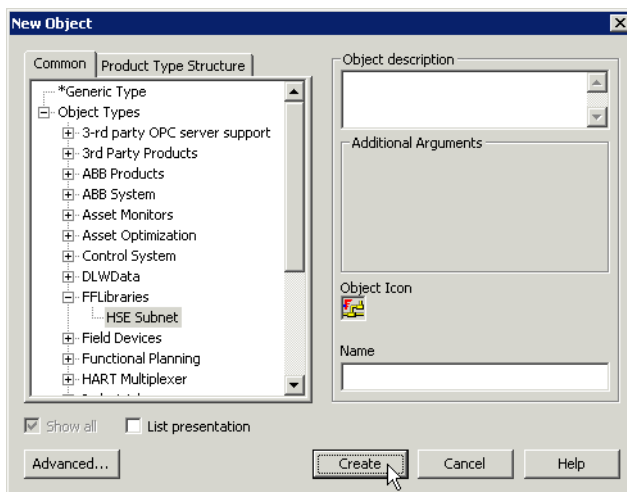

Figure 161. Selection of the HSE Subnet
3. Select the **HSE Subnet** object and enter a name for the object (refer to Figure 161).